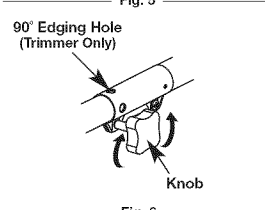

Fig. 6
- Turn the knob counterclockwise to loosen (Fig. 6).
- Turn knob counterclockwise to loosen (Fig. 6).
- Turn the knob clockwise to tighten (Fig. 6).
For decorative trimming/edging with the line cutting head, lock the release button into the 90° hole (Fig. 6).